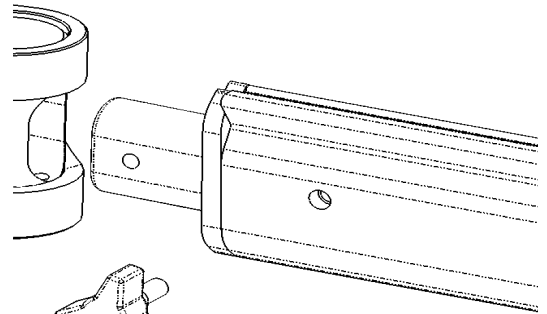

Fig .3
2) Once the base unit is secured, begin attaching the extrusions from the unit outward. Place the telescoping extrusions onto the main unit joints and secure from the backside with the knobs (as shown in Fig.3). Next secure the non-telescoping outbound extrusions with the knobs as before.